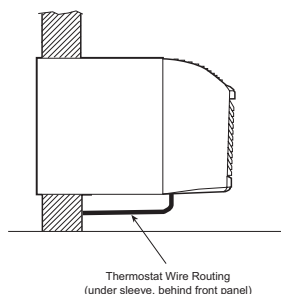

Fig. 19 – Proper Wire Routing
5. Route thermostat wire beneath ETAC II unit and up under the front panel on the power cord side (see Fig. 19). Never route thermostat wire through the wall sleeve.